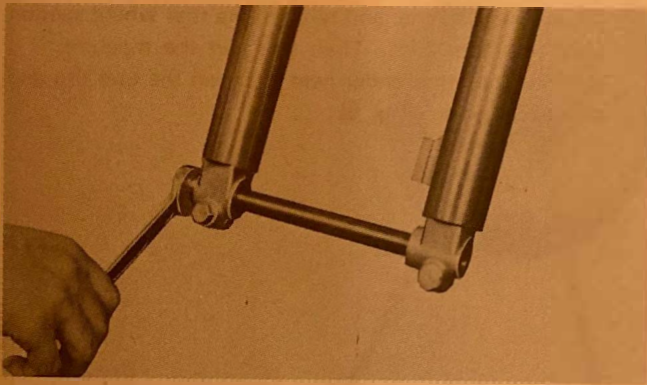

Fig. 13
6. Pull out the wheel shaft from the front forks. (Fig. 13)